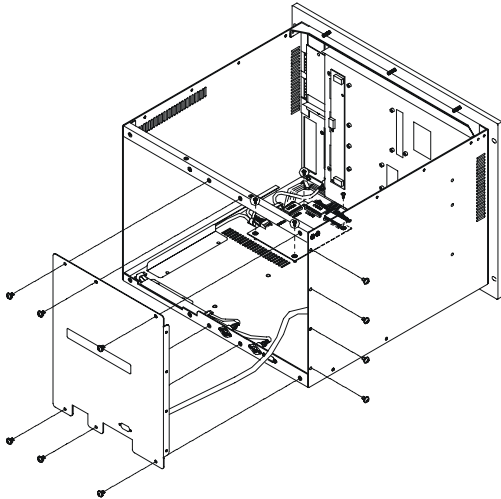

Figure 3.3: Removing LCD display module (first steps)
3. Unscrew and detach the upper and back cover. (Refer Fig. 3-3)
4. Unscrew and detach the keyboard translator board. (Refer Fig. 3-3)